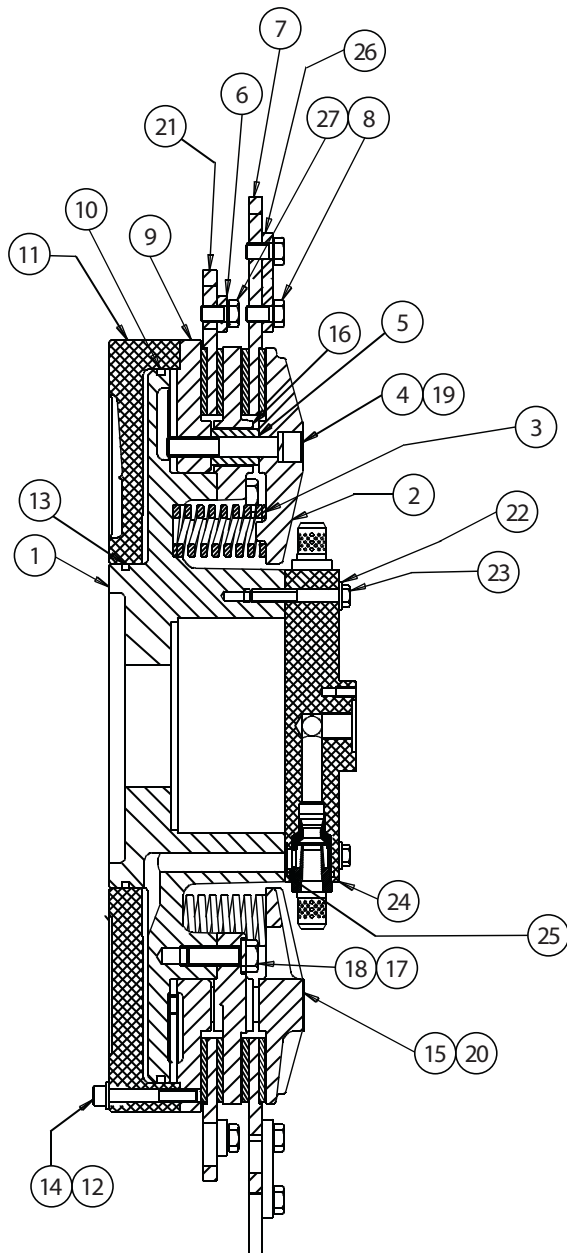

Figure 1
1.2.1 Referring to Figure 1, the hub (1) is secured to the machine drive shaft. The rotor sub-assembly (16) is attached to the hub which are axially stationary. As air pressure is introduced into the cylinder (11) cavity, the cylinder, pressure plate (9) and end plate (2), which are fixed to each other with screws (4) and clamp tubes (5), move away from the machine, clamping the clutch friction disc assembly (7) between the end plate and rotor subassembly and compressing the springs (3). The clutch friction disc is resiliently bushing supported on the flywheel. At the same time, the pressure plate (9), by virtue of its being fixed to the end plate, draws away from the brake friction disc assembly (21). As air pressure is exhausted from the cylinder cavity, the springs (3) force the end plate in the opposite direction, clamping the brake friction disc assembly between the pressure plate and rotor subassembly. The brake friction disc assembly is bushing supported on stationary reaction members bolted to the bearing quill.